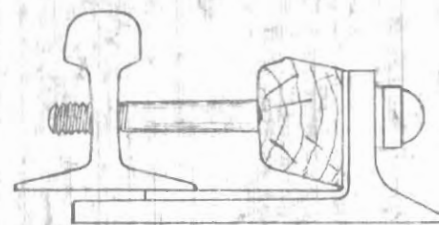
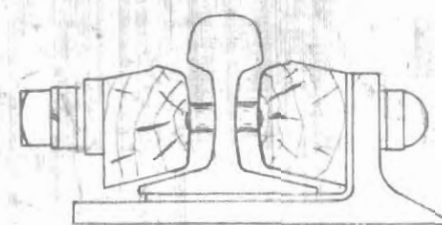
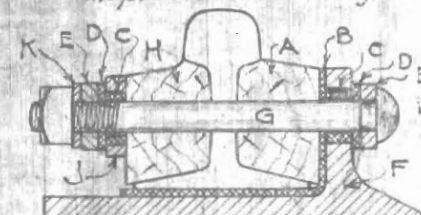

Figure 1
Figure 2
Figure 3
- 2nd. Apply outside half of assembled joint to rail as in Figure 1, after making sure that all fibre bushing are in place on bolts as per Figure 3. Move parts into place as shown in Figure 2.
- 3rd. Apply inside half of assembled joint to rail as in Figure 2, making sure that all fibre bushings are in place on bolts as shown in Figure 3.
- 4th. Tighten nuts uniformly drawing the joint parts gradually into position as shown in Figure 3 and 4.